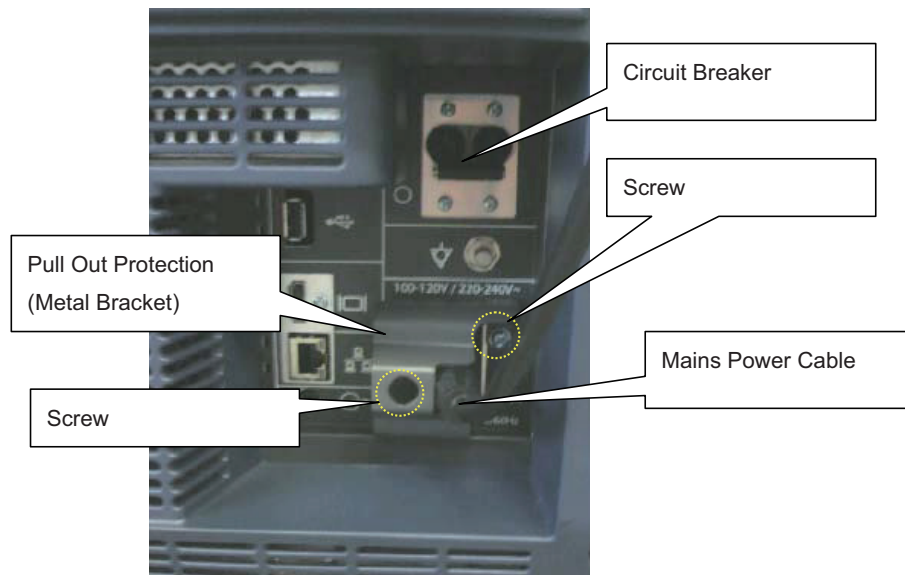

Figure 4-10 Circuit Breaker, pull-out protection and main power cable at rear of system.
- 4.) Switch ON the Circuit Breaker at the rear of the system. (see: Figure 4-10)